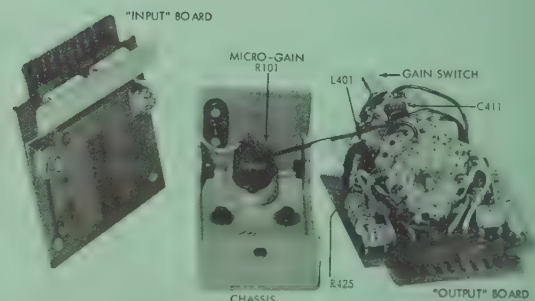

Figure A4-2. Exposing Components for Replacement
- Remove the four screws (two on each board) which hold the etched boards to the chassis. The input board (at this point attached to the assembly only by the potentiometer lead) is allowed to lie at one side as in Figure A4-2.